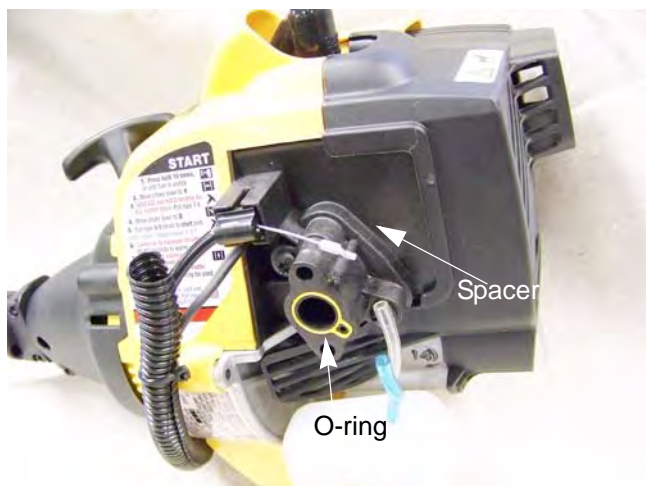

Figure 5.13
**NOTE:** A cracked spacer or a leaking O-ring between the spacer and the cylinder or the spacer and the carburetor could result in a lean run condition or prevent the impulses from the engine from driving the fuel pump. See Figure 5.13.